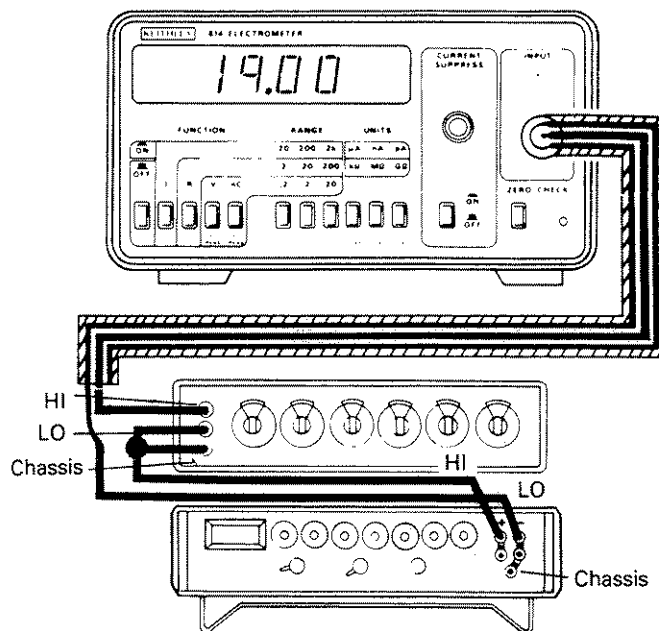

**Figure 4-3. Resistance Verification**
1. Select Resistance (R), 20k $\Omega$  range and depress ZERO CHECK.
2. Configure the Model 614 and the decade resistor (Item E) as shown in Figure 4-3.